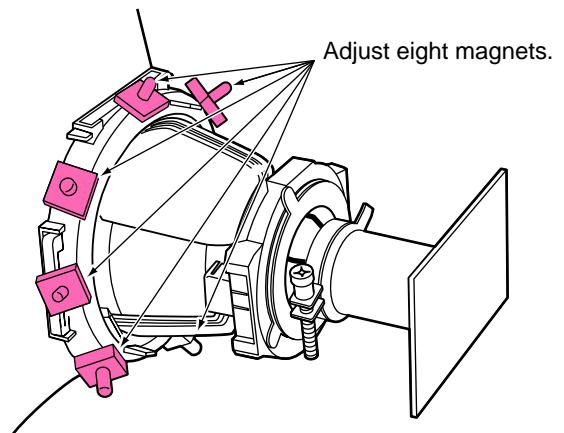

Fig. 4-2
- Adjust 8 magnets as shown in Fig. 4-2 so that the raster distortion becomes minimum.